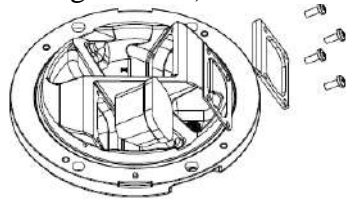

Figure 5-13
- With the cross screwdriver, dismount M5×12 screws and take down the prism pressing bracket (scattering wafer), prism washer, lens and lens gasket sleeve in succession (see Figure 5-13)